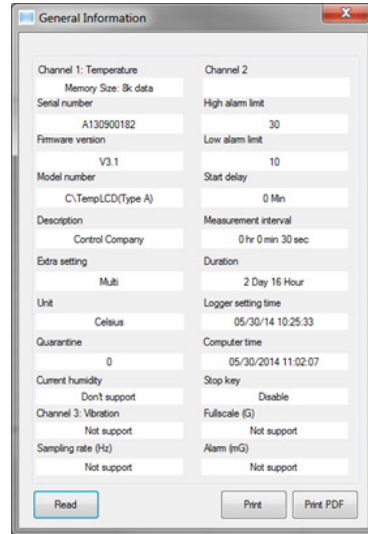

FIGURE 13
- 2.5.2. Click Read to retrieve information from Data-Logger. Note: Data-Logger must be stopped to read. See Fig. 13